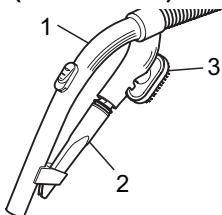

Fig. 5
- The crevice nozzle and the furniture and upholstery brush are included as **accessories** in the scope of delivery. They can be secured to the accessories mount (Fig. 5/1).
- **Crevice nozzle (Fig. 5/2)**
- **2-in-1 combi-nozzle (Fig. 5/3) to be used as:**